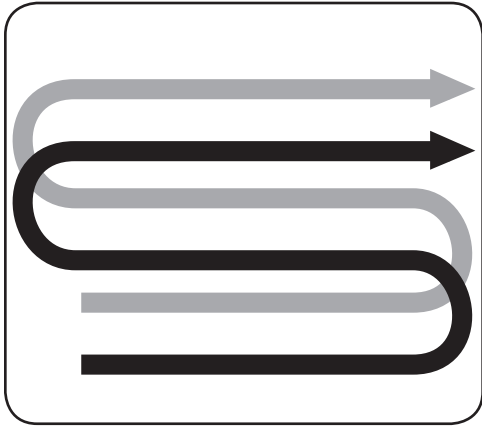

Figure 3-7
- When preparing a seedbed, go over the same path twice in the first row, then overlap one-half the tiller width on the rest of the passes. See Figure 3-7.